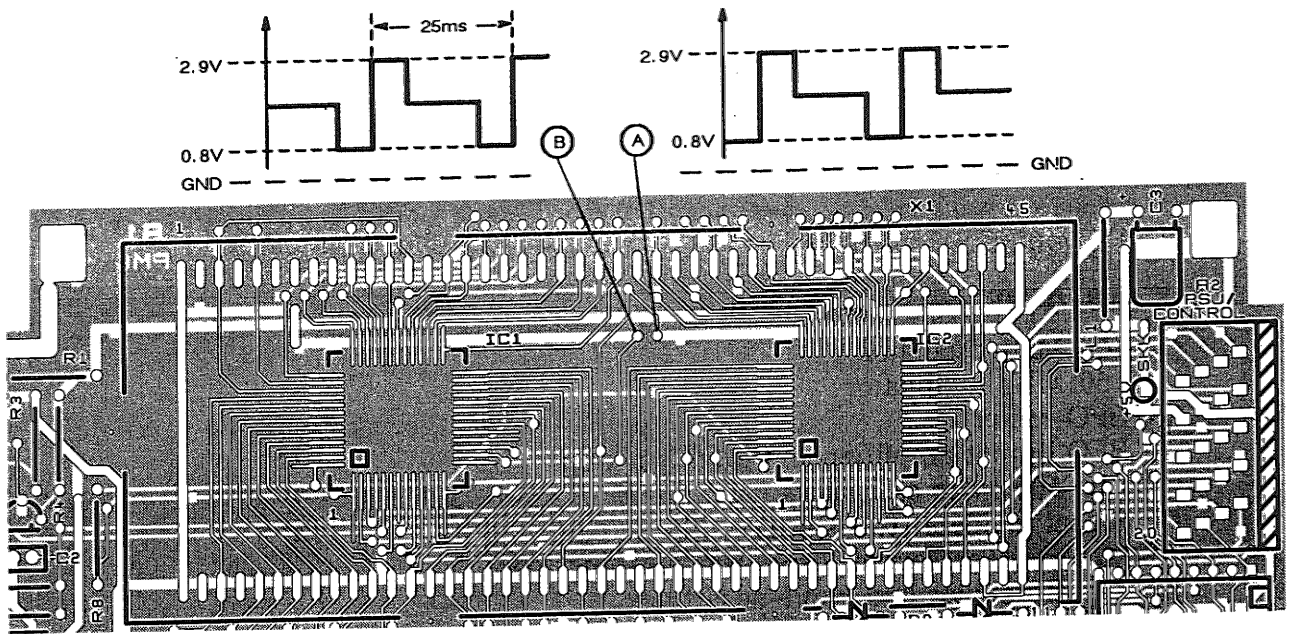

Fig. 5-16 Backplane drive waveforms and test locations
78. Backplane drive waveforms can be conveniently checked with reference to Fig. 5-16. The amplitude of the backplane segment waveform is determined by the setting of R2 ‘SET LCD OFF VOLTAGE’. The period of the square waves should be either 12.5 or 25 ms and the combination of their frequency and phase with respect to the backplane determines the state of the display. See Chapter 4, Technical Description, for further details.